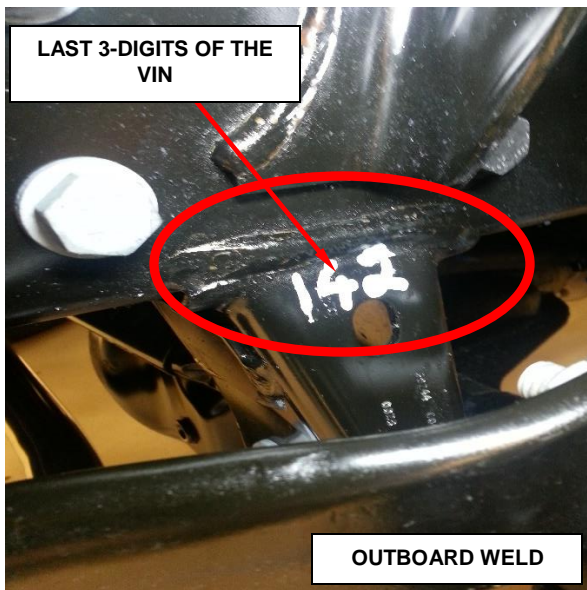

Figure 2 – Outboard Track Bar Weld
5. Clean the surrounding inboard and outboard weld areas with a wet cloth (Figures 2 and 3).
6. Turn the steering wheel all the way to the left to gain access to the track bar bracket frame outboard weld (Figures 2 and 3).
7. Ensuring sufficient lighting, using a paint pen or equivalent write the last 3-digits of the Vehicle Information Number (VIN) on the outboard frame bracket and take a photo of both welds (Inboard and Outboard weld) as shown in (Figures 2 and 3).
- Photo of the outboard weld **with** the last 3-digits of the **VIN marked** (Figure 2).